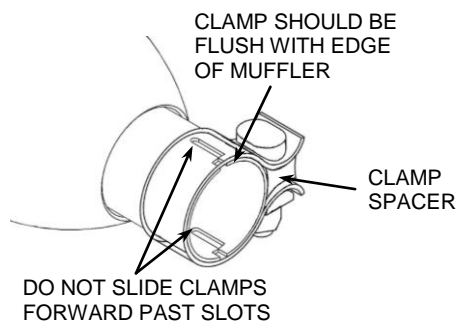

FIGURE 5
11. Position the stock right side muffler clamp with hex nut facing inward and down as shown in **FIGURE 5** and slide it onto the muffler assembly inlet tube. (NOTE: The muffler clamp should be flush with the end of the muffler when tightened. See **FIGURE 5**. If the muffler clamp is slid forward past the slots on the slip collar the clamp will not tighten the muffler properly. Also, make sure the clamp spacer is not over the slots. The slots need to be covered by the clamp band so that it seals the slots properly. Rotate the clamp if necessary.)